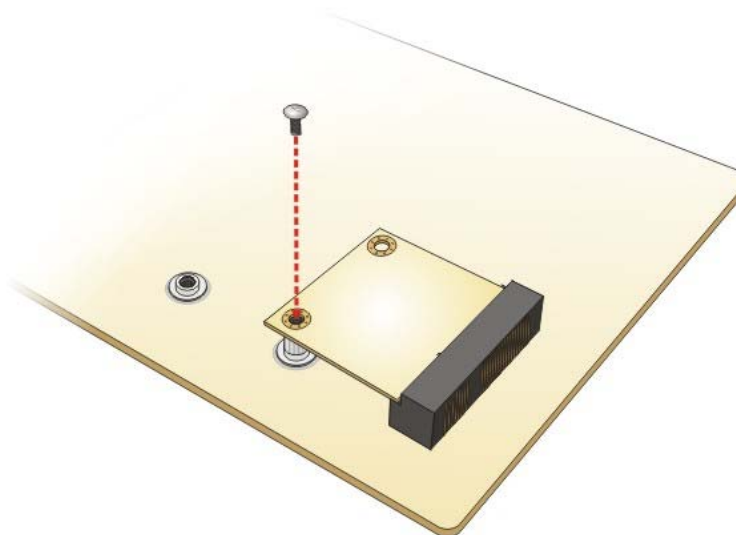

Figure 4-8: Securing the Half-size PCIe Mini Card
Step 6: Secure the half-size PCIe Mini card. Secure the half-size PCIe Mini card with the retention screw previously removed (Figure 4-8).